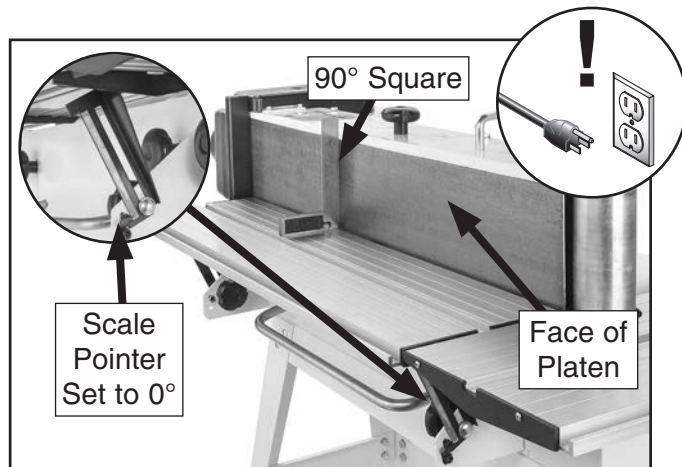

Figure 51. Calibrating main table tilt.
4. Set one edge of 90° square on main table surface and other edge against face of platen, as shown in **Figure 51**.
7. Loosen scale pointer cap screw (see **Figure 51**), adjust pointer to 0°, then tighten screw.